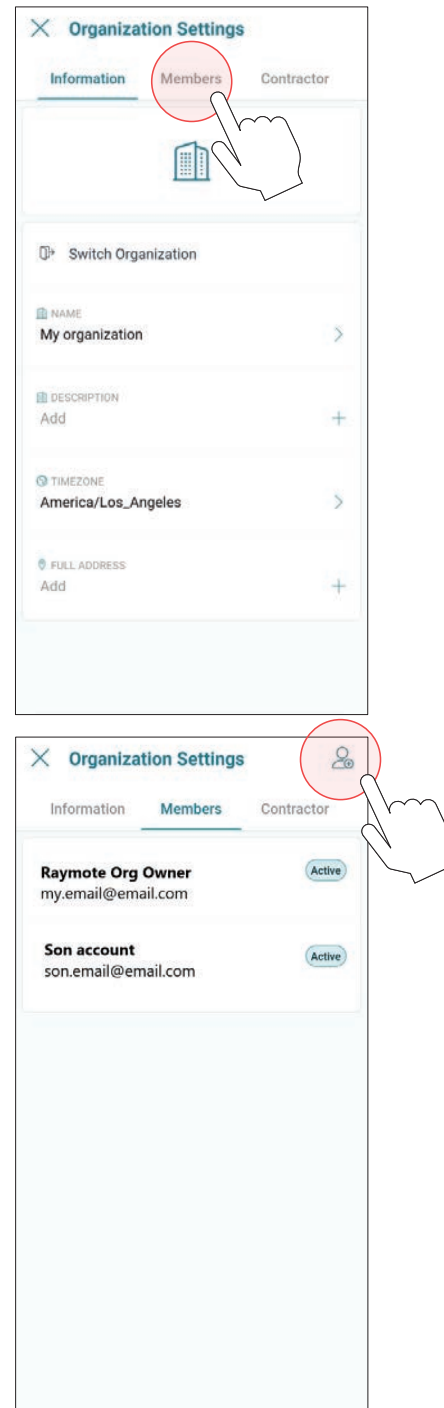
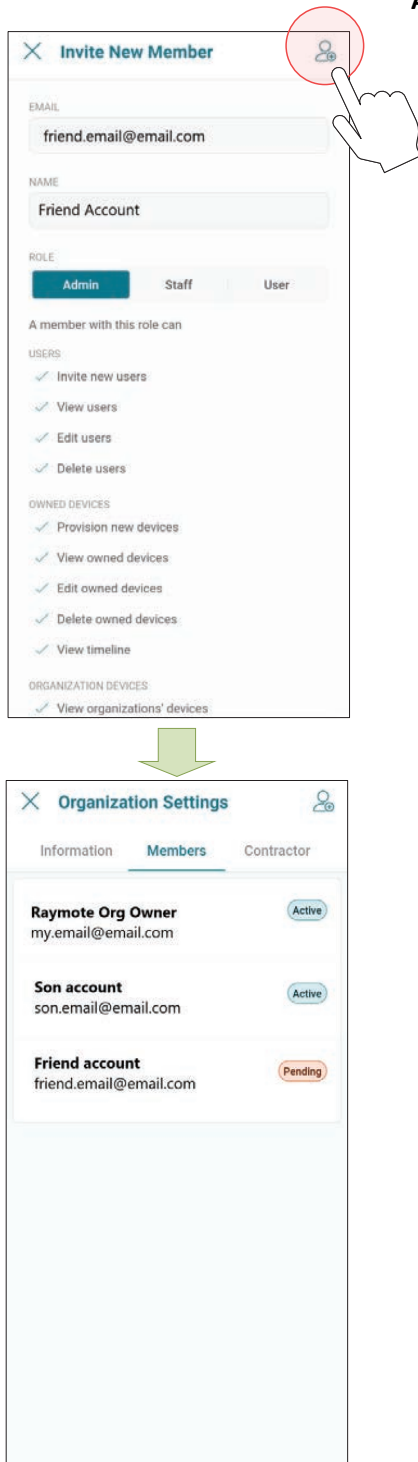

Figure 107. Invite a New Member to your Organization
Figure 108. Invite a New Member
4. Click on the top-right icon to [Invite a New Member]. See Figure 107 and Figure 108.